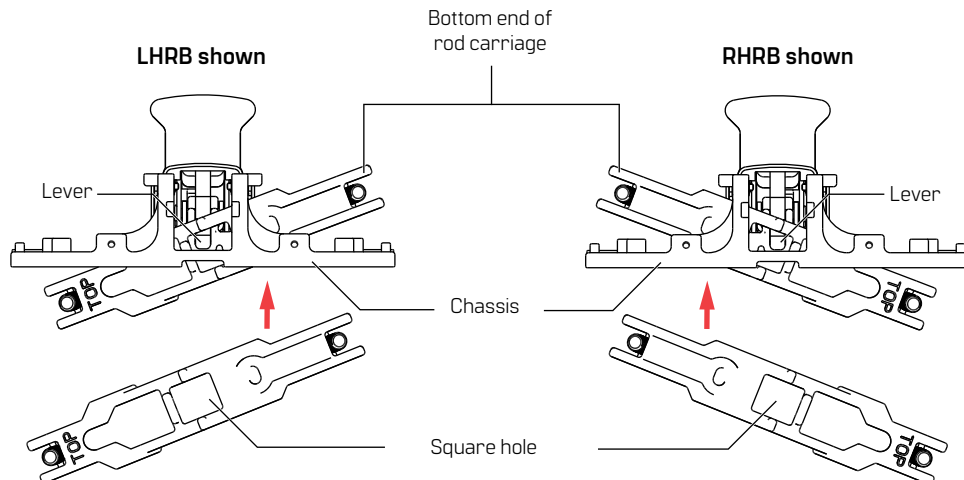

Figure 4 Lift lever
- 3.1.6 Insert bottom end of rod carriage into opposite side of chassis, as shown in Fig. 4.